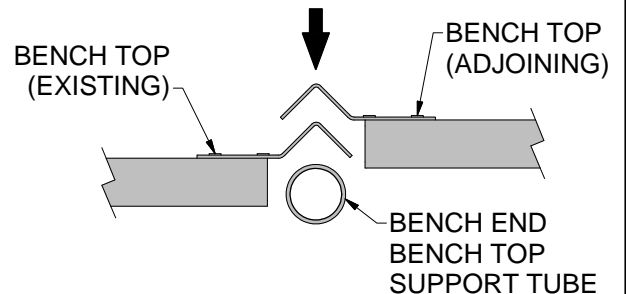

FIGURE 1
2. SET BENCH TOPS DOWN OVERLAPPING EXISTING BENCH TOPS AS SHOWN IN FIGURE 1.